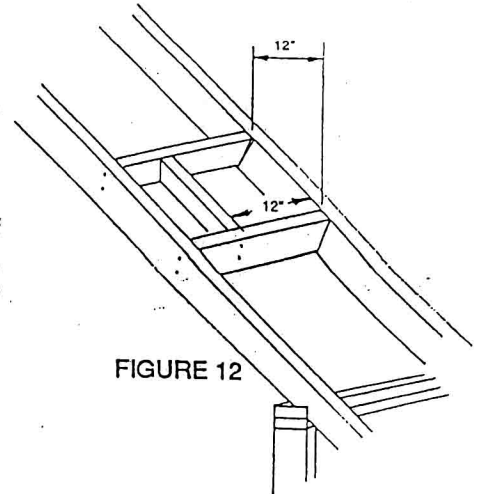

FIGURE 12
1. Having determined the air terminal location, cut or frame a hole in the roof with a minimum round or square opening of 12 inches being sure to maintain the required 1 inch clearance to combustibles (Fig. 12).